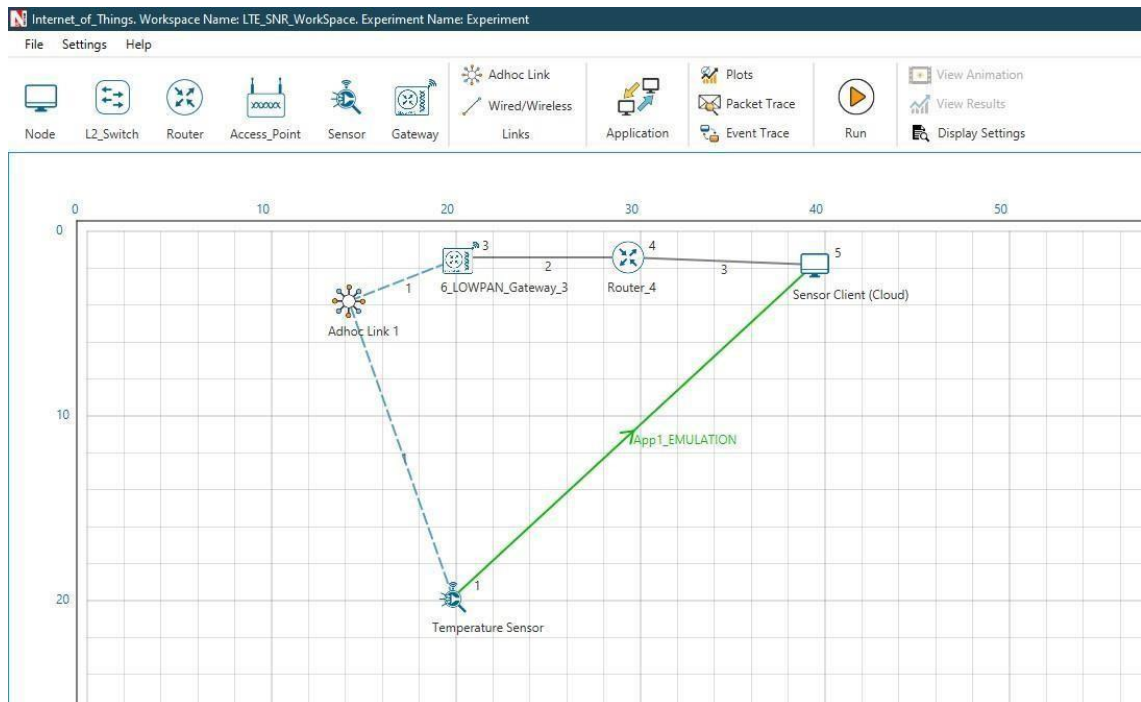

Figure 1.7: Network designed in NetSim
- Open IoT network module and Create a simple scenario with one sensor connecting to cloud as shown in Figure 1.7